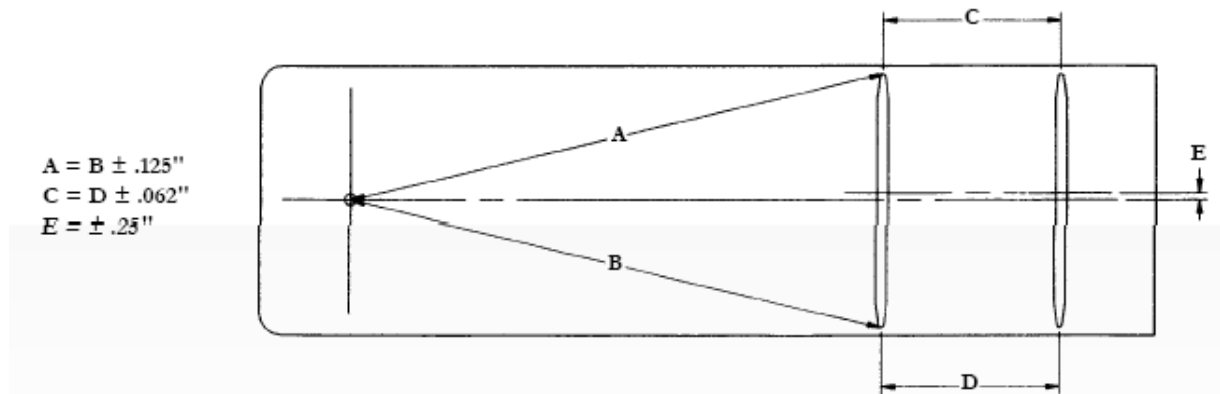
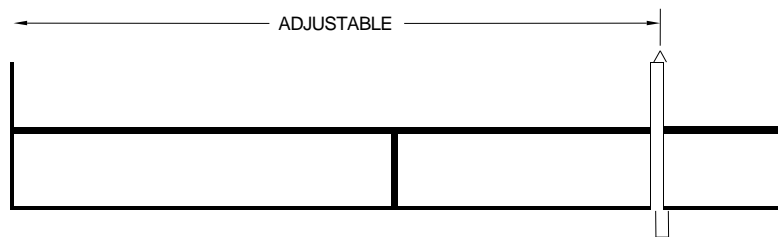

Figure 4
Figure 5
2.1.3.2.3 Measure distances A and B from the king pin to the front axle. Refer to Figure 4. These must be equal within 1/8 inch of each other. Measure distances C and D between axles using gauge as shown in Figure 5. Note that all currently available trailer axles have dimples or recesses at the center of the axle spindle ends. These also must be equal within 1/16 inch of each other. Determine lateral centerline of trailer body and axles. Distance E should not exceed 1/4 inch for either axle. (Distance E is the distance between axle and trailer centerlines.)